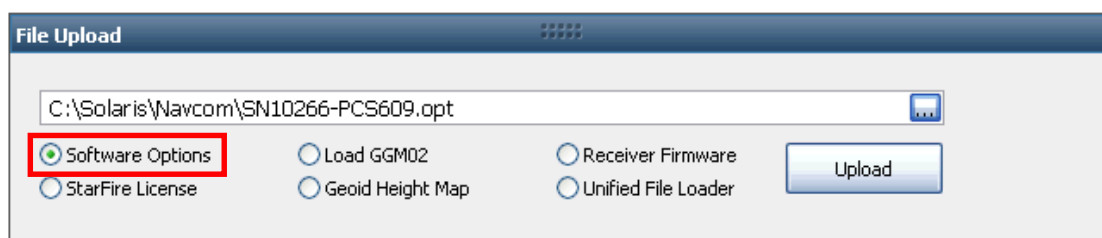

Figure 85: File Upload – Software Options
2. Locate the *File Upload* window on the tab. *Software Options* is the default file upload. (Select *Software Options* if it is not selected.) See Figure 85.
6. Select the software options file. The path to the file appears in the upload field (see Figure 85).